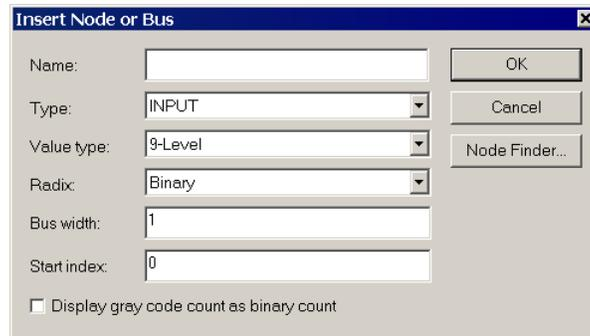
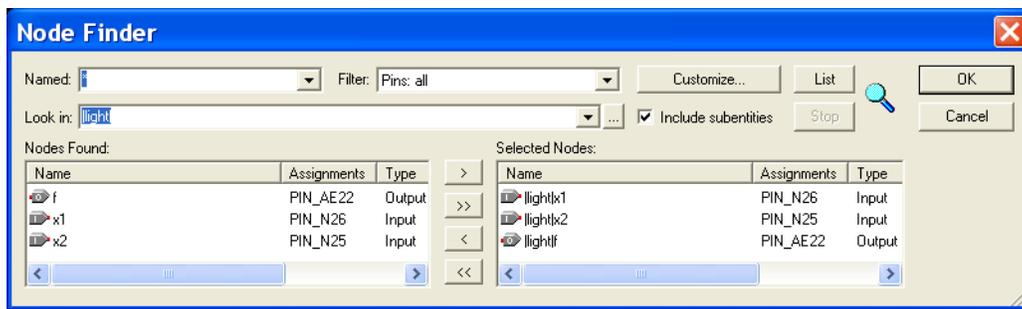
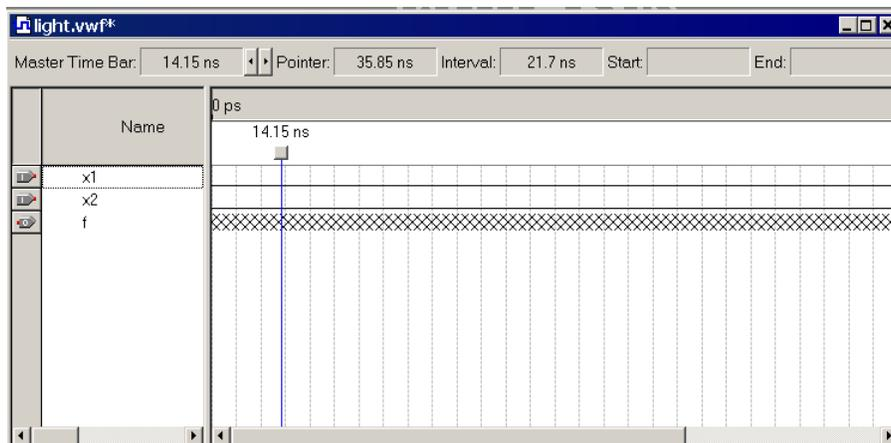

Figure 34. The Insert Node or Bus dialogue.
Figure 35. Selecting nodes to insert into the Waveform Editor.
Figure 36. The nodes needed for simulation.
- Next, we want to include the input and output nodes of the circuit to be simulated. Click **Edit > Insert Node or Bus** to open the window in Figure 34. It is possible to type the name of a signal (pin) into the Name box, but it is easier to click on the button labeled **Node Finder** to open the window in Figure 35. The Node Finder utility has a filter used to indicate what type of nodes are to be found. Since we are interested in input and output pins, set the filter to **Pins: all**. Click the **List** button to find the input and output nodes as indicated on the left side of the figure.
Click on the *x1* signal in the Nodes Found box in Figure 35, and then click the > sign to add it to the Selected Nodes box on the right side of the figure. Do the same for *x2* and *f*. Click OK to close the Node Finder window, and then click OK in the window of Figure 34. This leaves a fully displayed Waveform Editor window, as shown in Figure 36. If you did not select the nodes in the same order as displayed in Figure 36, it is possible to rearrange them. To move a waveform up or down in the Waveform Editor window, click on the node name (in the Name column) and release the mouse button. The waveform is now highlighted to show the selection. Click again on the waveform and drag it up or down in the Waveform Editor.